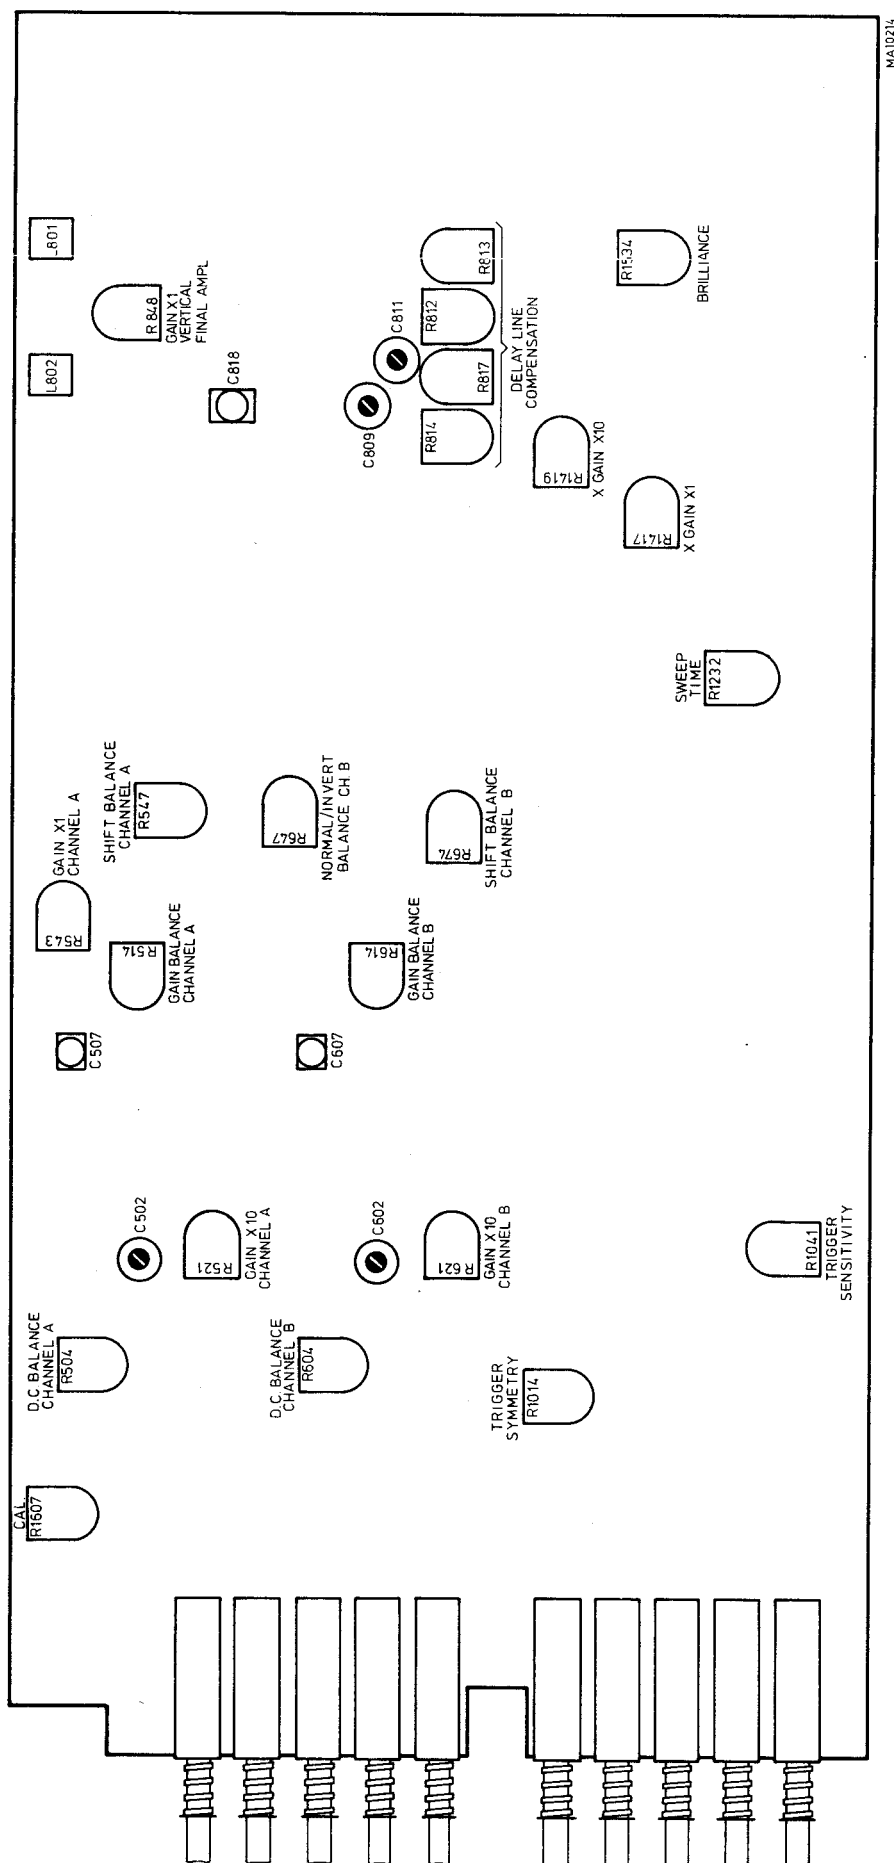

Fig. 3.3. Adjusting elements amplifier board
- Depress input coupling switch S13 (0).
- Check with a multimeter that the DC output voltage of the trigger amplifier (collector of V1014) does not change if SLOPE push-button S3 is switched between + and -. If necessary readjust potentiometer R1014 (Fig. 3.3.).
- Release input coupling switch S12 to (DC).
- Release input coupling switch S13 (0).
- Find the lowest possible input signal at which it is still possible to obtain a triggered trace with the aid of LEVEL potentiometer R5 and potentiometer R1041 (Fig. 3.3.).
- Check that the voltage on the CAL output socket is $1,2 \text{ V} \pm 1\%$. If necessary readjust potentiometer R1607 (Fig. 3.3.).